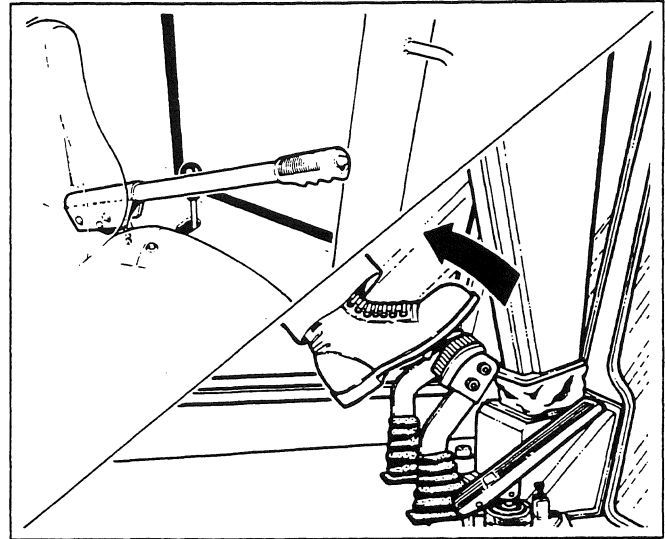

Fig. 47
4. Slowly release the clutch pedal - taking approximately two seconds to do so (see Fig. 47). The engine must stall. If the engine does not stall, either re-burnish the friction pads or re-adjust the gap between the applying pad and disc.